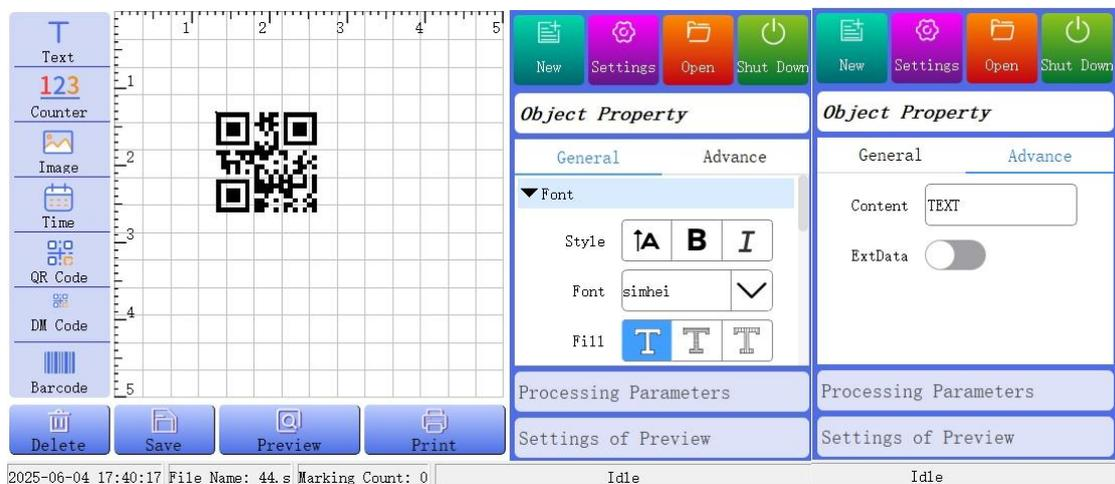

Figure 3.2.2.1 Text editing
① If you need to print Chinese characters (CN), English (EN), numbers, symbols and other content, please click the "Text" button in the "Information Button Area", and a default text entry will appear in the "Information Editing Area". As shown in Figure 3.2.2.1.